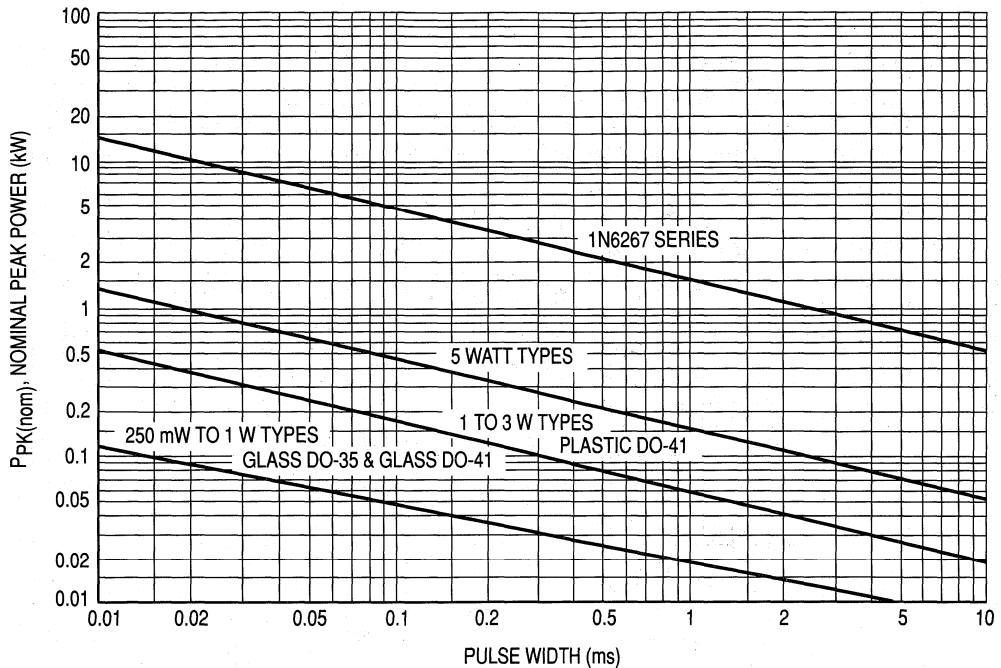
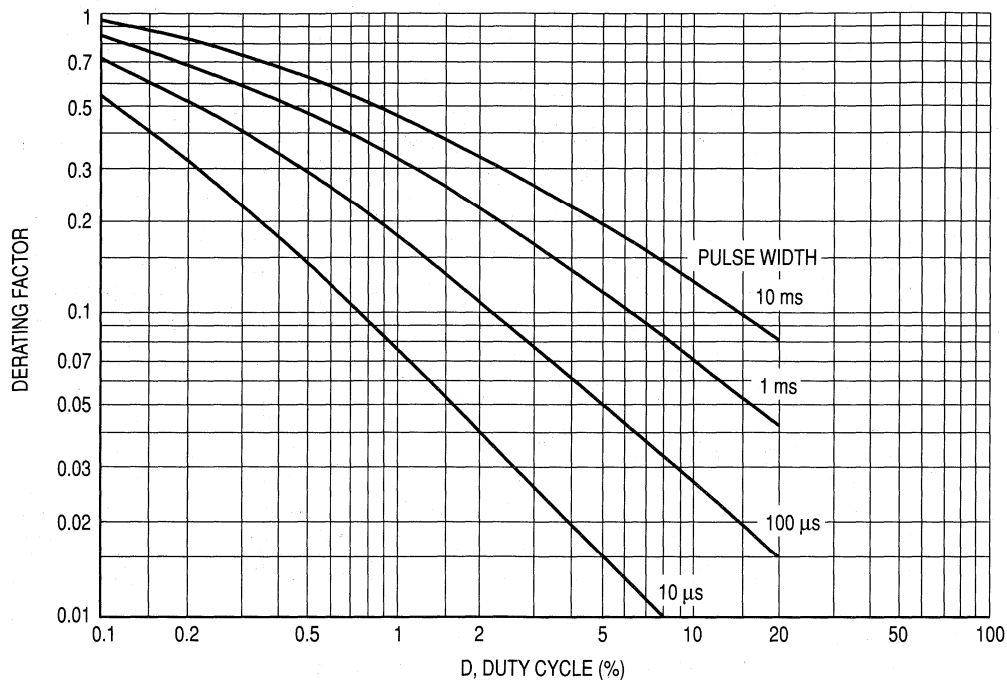

Figure 7-18. Peak Power Ratings of Zener Diodes
Figure 7-19. Typical Derating Factor for Duty Cycle
Some Motorola data sheets such as the ones for devices shown in Table 7-1 contain short pulse surge capability. However, there are many data sheets that do not contain this data and Figure 7-18 is presented here to supplement this information.
Some data sheets have surge information which differs slightly from the data shown in Figure 7-18. A variety of reasons exist for this:
3. Large dice are used, or special tests are imposed on the product to guarantee higher ratings than those shown in Figure 7-18.
The data of Figure 7-18 applies for non-repetitive conditions and at a lead temperature of 25°C. If the duty cycle increases, the peak power must be reduced as indicated by the curves of Figure 7-19. Average power must be derated as the lead or ambient temperature rises above 25°C. The average power derating curve normally given on data sheets may be normalized and used for this purpose.
The peak current will equal the on-state transistor current (5 amperes) and will decay exponentially as determined by the coil L/R time constant (neglecting the zener impedance). A rectangular pulse of width L/R (0.01 s) and amplitude of I_{PK} (5 A) contains the same energy and may be used to select a zener diode. The nominal zener power rating therefore must exceed $(5 \text{ A} \times 50) = 250$ watts at 10 ms and a duty cycle of $0.01/2 = 0.5\%$. From Figure 7-19, the duty cycle factor is 0.62 making the single pulse power rating required equal to $250/0.62 = 403$ watts. From Figure 7-18, one of the 1N6267 series zeners has the required capability. The 1N6287 is specified nominally at 47 volts and should prove satisfactory.